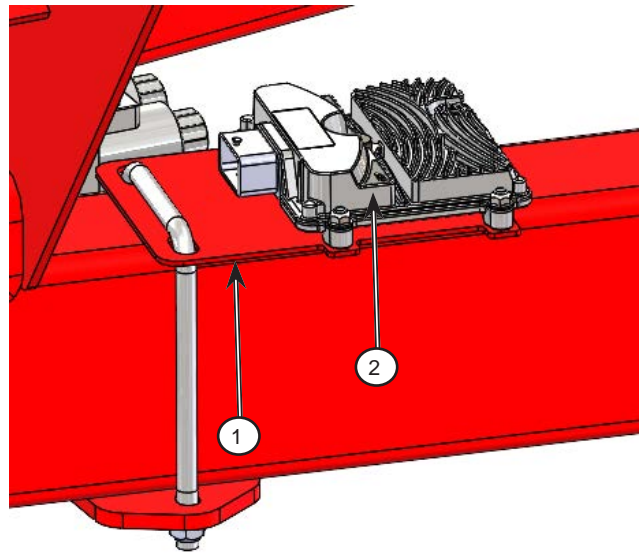

Figure 2: Remove the controller
3. Remove the existing controller mount (1) from the frame, and remove the controller (2) from the mount; see *Figure 2*.